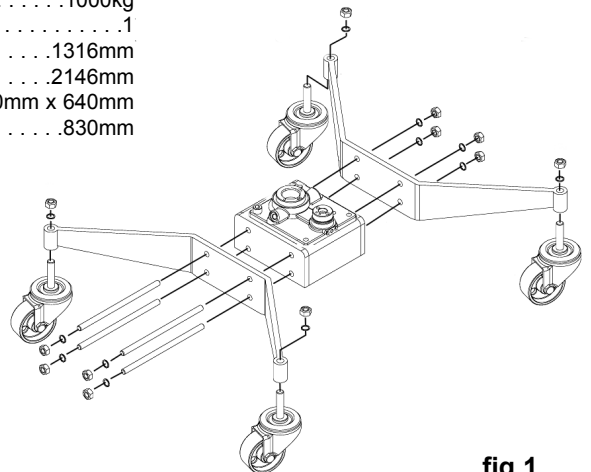

fig 1
- 3.1. Fix hydraulic unit to the 2 base legs with the 4 long bolts and associated nuts and bolts (fig 1).
- 3.2. Assemble the four wheels onto the base legs using the 4 nuts and washers (fig 1).